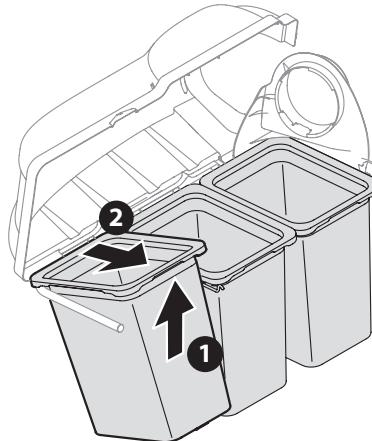

Figure 27
4. Remove the grass bags, as shown in Figure 27, by lifting each bag up (1) and moving the bags away from the bag support assembly (2).